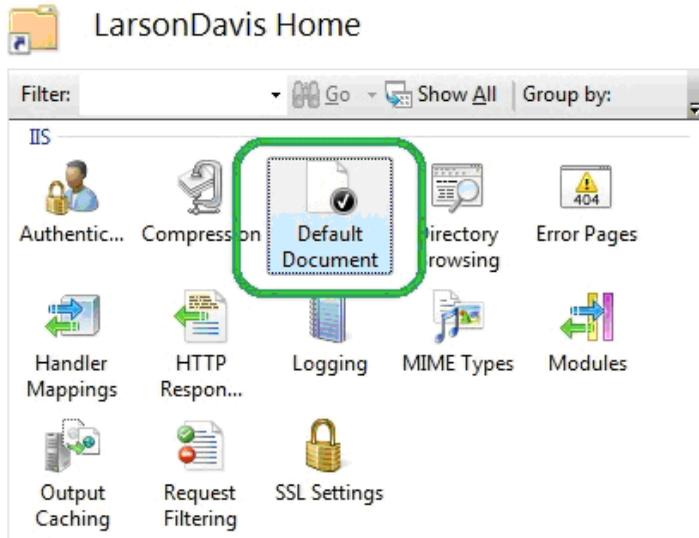

FIGURE 2-11 IIS Manager - Default Document
Step 18 Double-click **Default Document**, as shown in FIGURE 2-11.